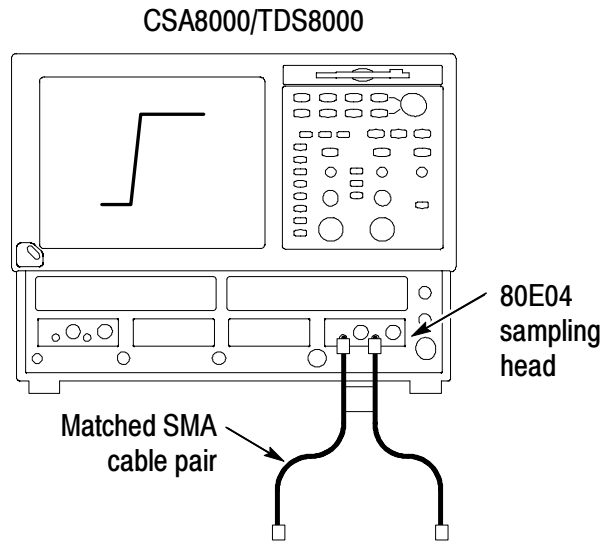

Figure 16: Checking skew between inputs
You can measure the skew of the cable pair by connecting the cables to a Tektronix 80E04 Sampling Head, configured for a TDR output. Figure 16 on page 33 shows a setup for checking the skew.
3. Connect the matched cable pair to the TDR outputs, as shown in Figure 16 on page 33.